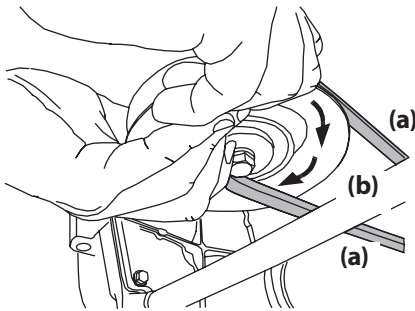

Figure 4-11
- d. While still holding the PTO belt (a) downward, continue turning the PTO pulley (b) until the PTO belt (a) is rolled off the PTO pulley (b). Refer to Figure 4-11.
11. Pull the right side of the PTO belt rearward and place the narrow V-side of the PTO belt into the PTO pulley. See Figure 4-11.
12. While holding the PTO belt and PTO pulley together, rotate the PTO pulley to the left (See Figure 4-11). Continue holding and rotating the PTO pulley and PTO belt until the PTO belt is fully rolled into the PTO pulley.